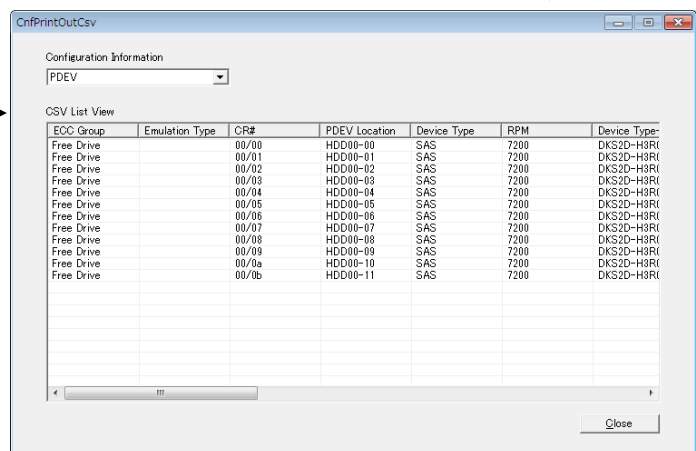

Figure 6 Configuration Information List Window
The configuration information list window shown in Figure 6 is displayed after outputting the CSV file. Figure 6 shows the output CSV file in the list format.
(4) Displaying the CSV file list
When the [View] button is pressed, the configuration information list window shown in Figure 6 is displayed. Figure 6 displays the CSV file that has been specified in Step (2) in the list format.
(5) Exit button